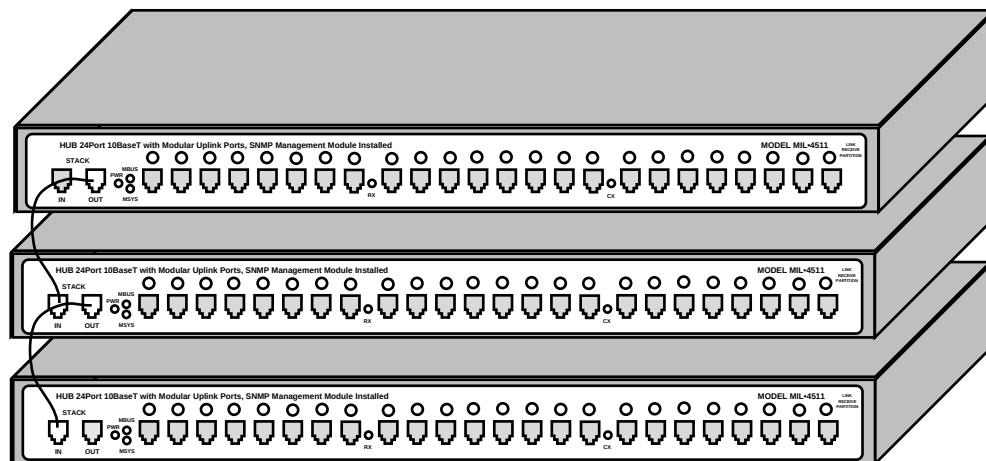

Figure 3. Stacking Multiple Hubs
3. On the first 4511H hub, connect another cable in the “Stack / Out” port to the “Stack / In” port on the next MIL-4511H (see Figure 3).